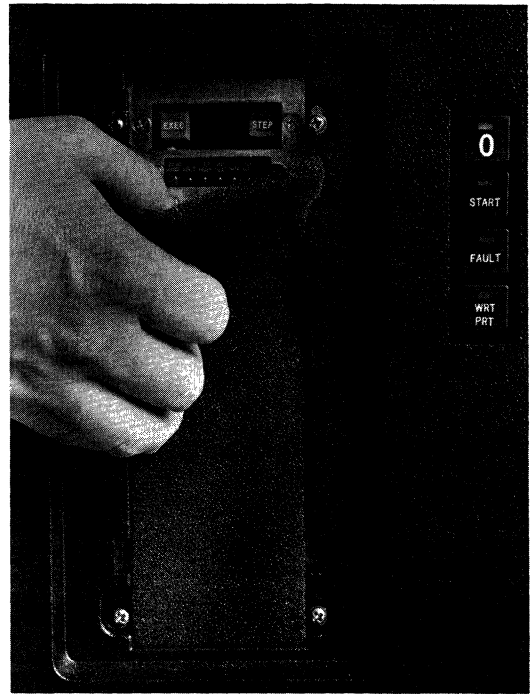

Figure 3-4. Removing Old Filter
2. Remove the old filter (Figure 3-4). Notice how the filter fits into place so that the new one can be installed in the same position.
2. Remove the filter (see Figure 3-4).